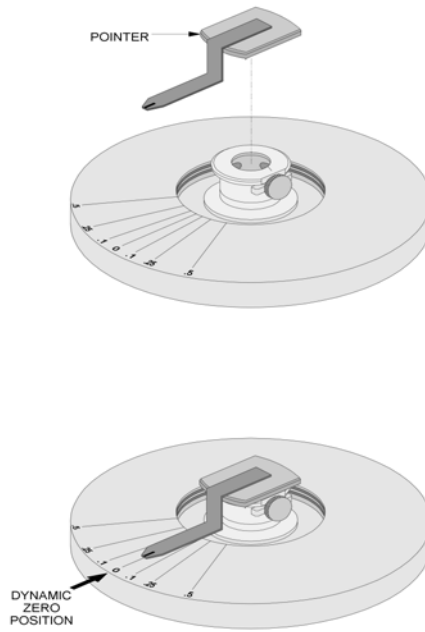

Figure 5-8. Installation of Pointer for Strain Calibration Check
3. Install the pointer onto the motor as shown in Figure 5-8.